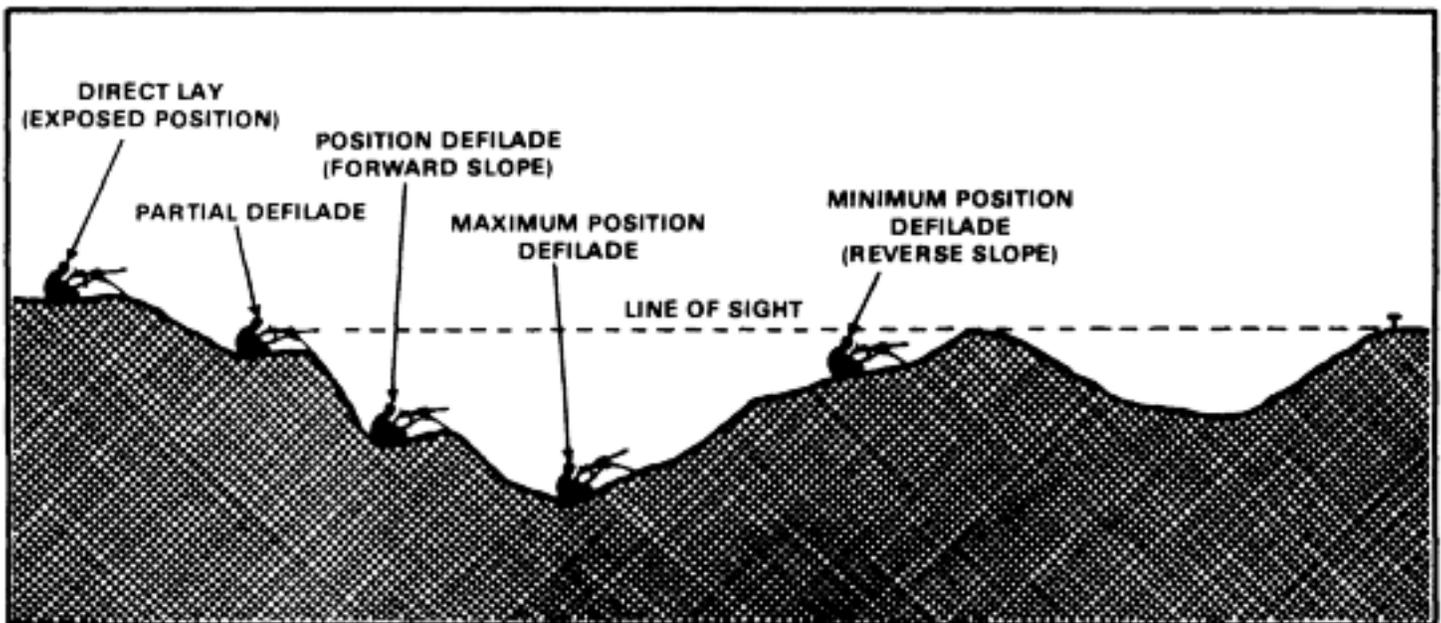

Figure 6-21. Defilade positions (and direct lay).
a. Definition. A MK 19 is in defilade position when the gun and its crew are hidden, by a crest or mask, from enemy ground observation and small-arms fire (Figure 6-21). The position may be on the reverse slope of the mask, on the forward slope of the next high ground to the rear of the mask, or in a small fold in the ground. A defilade firing position does not necessarily reduce the effectiveness of fire against a stationary enemy target or preclude fire over the heads of friendly troops. Defilade may also be useful in providing predetermined fire into an EA.